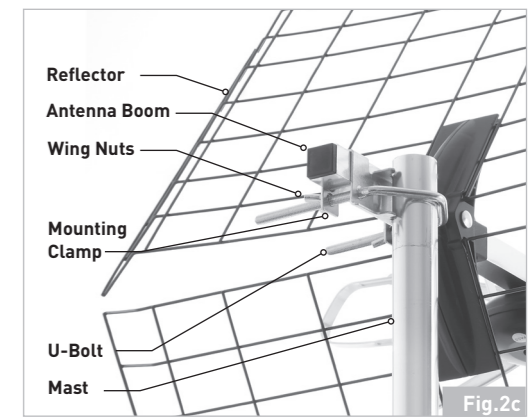
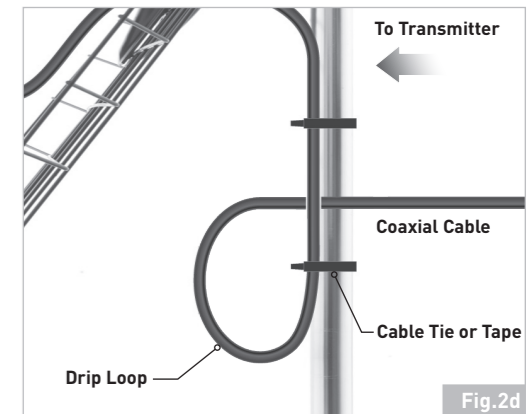

Fig.2c
Fig.2d
2. Mount the antenna mast in between the u-bolt and the mounting clamp. Slide the antenna over the mast (See Figure 2c). Direct the antenna towards the transmitter and use a shifter/adjustable wrench to tighten the wing nuts. Use cable ties or tape to secure the coaxial cable to the antenna mast (See Figure 2d). See "Stage 3. CABLING ANTENNA" to know more about coaxial cable connection.